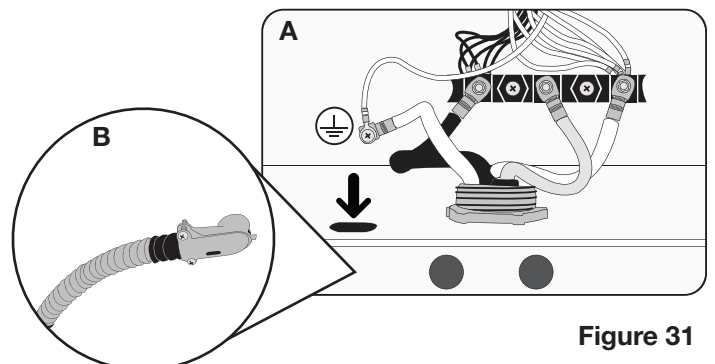

Figure 31
- 2 Open push out hole. Disconnect cables and insert through hole. (See Figure 31 A)
- 3 Connect cable with conduit and connect tube. Screw tightly on each side of part. (See Figure 31 B)